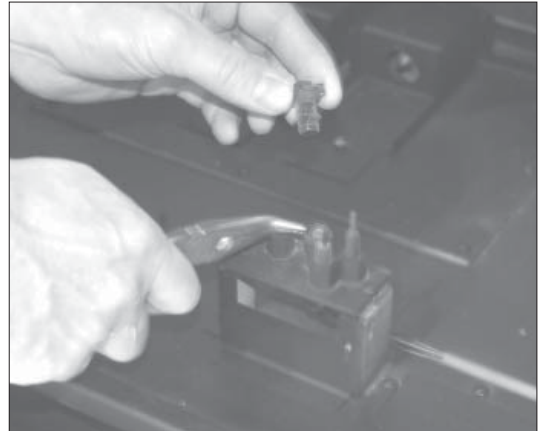

Figure 52: Removing the hood.
6. The pilot hood is held in with spring pressure. Remove the hood by pulling it directly up from the pilot assembly (Figure 52).